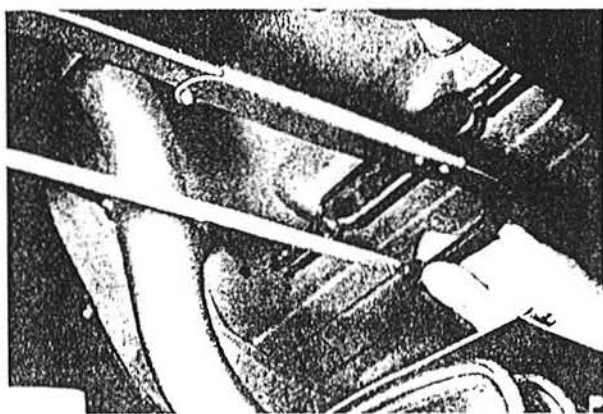

Fig. 3.29 Cutting the rear of the exhaust system to facilitate its removal (Sec 21)
- 6 Use a hacksaw to cut through the rear exhaust pipe about 240 mm (9.4 in) from the rear of the front resonator (Fig. 3.29).